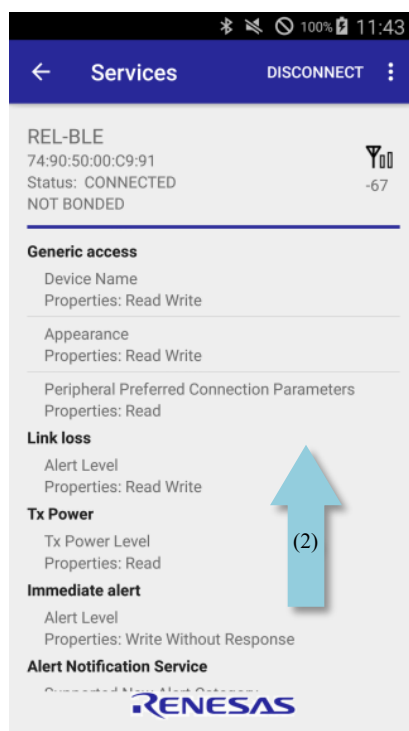

Figure 2
4. (Figure 2 - Arrow (2)) Slide the connected screen upward to display the lowest characteristic.